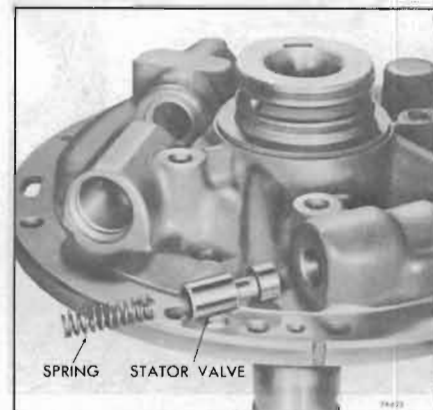

Figure 74-623
11. Remove stator valve spring and valve. See Figure 74-623.
1. Install stator valve and spring. Compress spring and install retaining pin. See Figure 74-623.